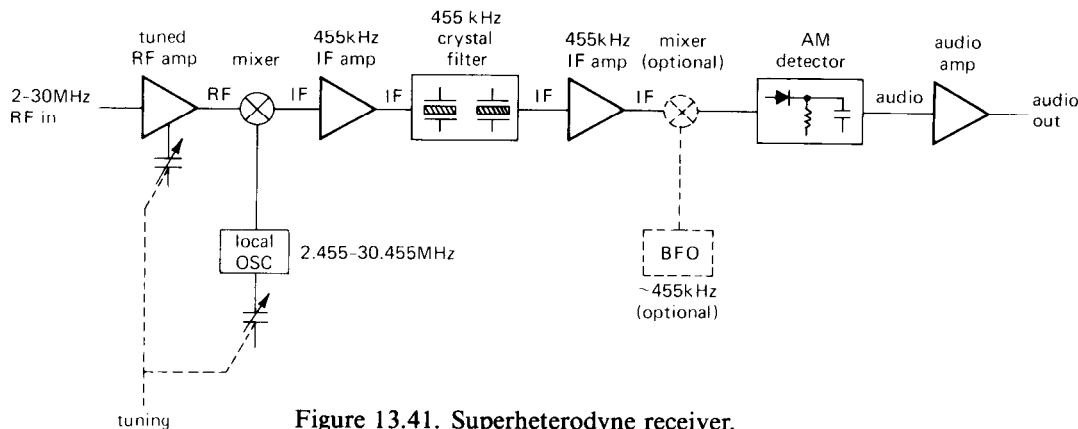

Figure 13.41. Superheterodyne receiver.
A nice solution to these problems is the superheterodyne ("superhet") receiver shown in Figure 13.41. The incoming signal is amplified with a single stage of tuned RF amplification, then mixed with an adjustable local oscillator (LO) to produce a signal at a fixed intermediate frequency (IF), in this case 455kHz. From then on the receiver consists of a set of fixed-tuned IF amplifiers, including selective elements such as crystal or mechanical filters, finally terminating in a detector and audio amplifier. Changing the LO frequency tunes the receiver, since a different input frequency then gets mixed to the IF passband frequency. The input RF amplifier must be gang-tuned with the LO, but the alignment is not critical. Its purposes are (a) to